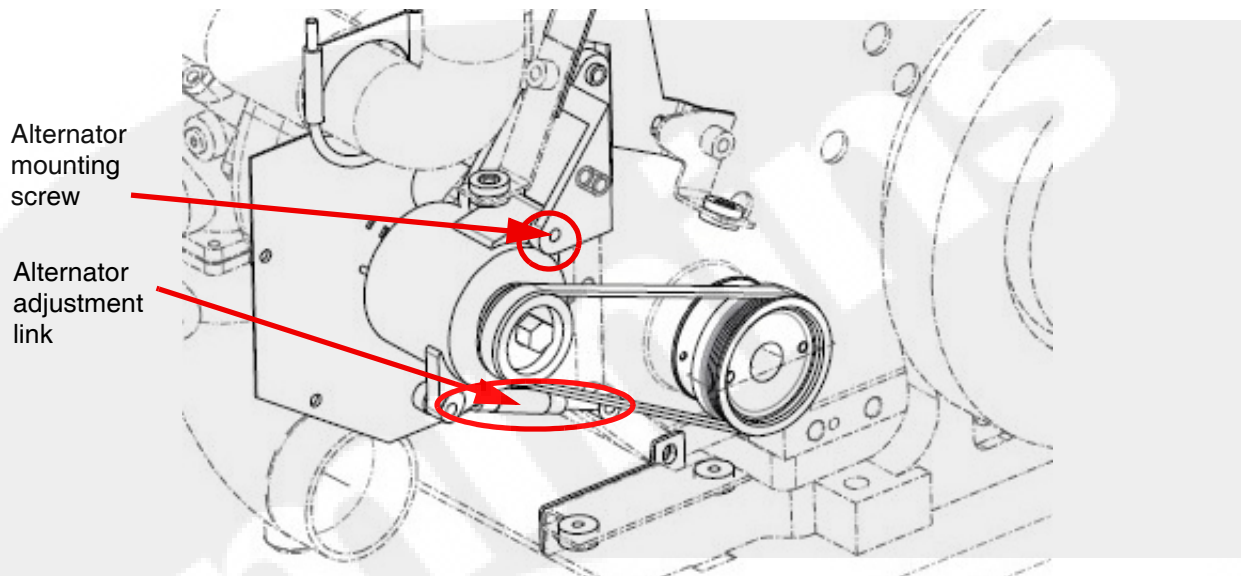

Figure 7-41 GenSet alternator belt tension
3. As shown in Figure 7-41, loosen the alternator mounting screw. Loosen the jamb nuts on the alternator adjustment link and back them off to the end of the threads.